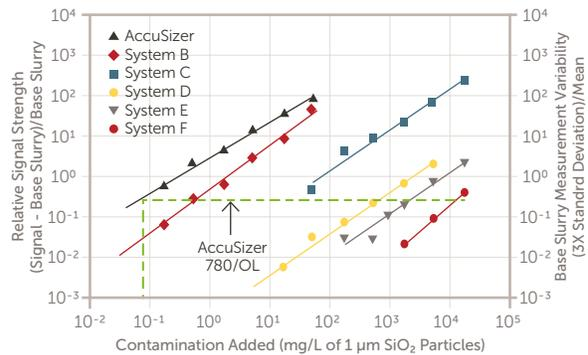

Figure 5. SiO₂ particle detection study.
A study published for the microelectronic industry¹ shows how the AccuSizer SPOS system performed vs. other techniques on the ability to detect a spike of 1 µm SiO₂ particles into a base silica, oxide CMP slurry. The AccuSizer system perturbation detection limit result was reported to be 0.07 mg/mL while the diffraction result (C) was reported to be 100 mg/mL – a difference of 1428X (Figure 5).